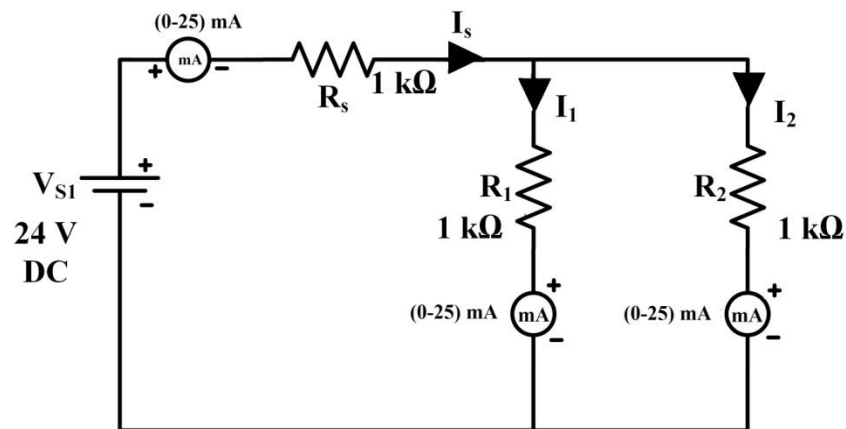

Figure 3.2 Current Division Rule
For the circuit of figure 3.2, Current Division formulae are:
1. Construct the circuit as shown in Figure 3.2.